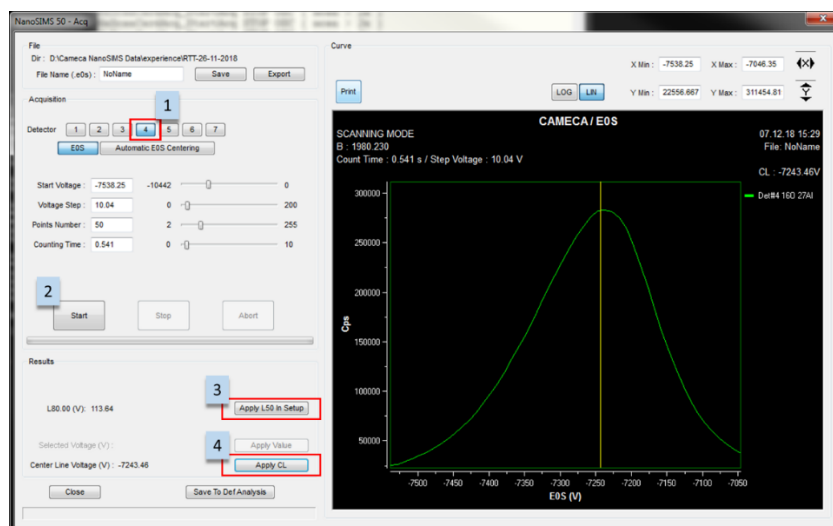

Figure 405: EOS centering
- step 1 (in Figure 405): preferentially select the trolley with the highest signal,